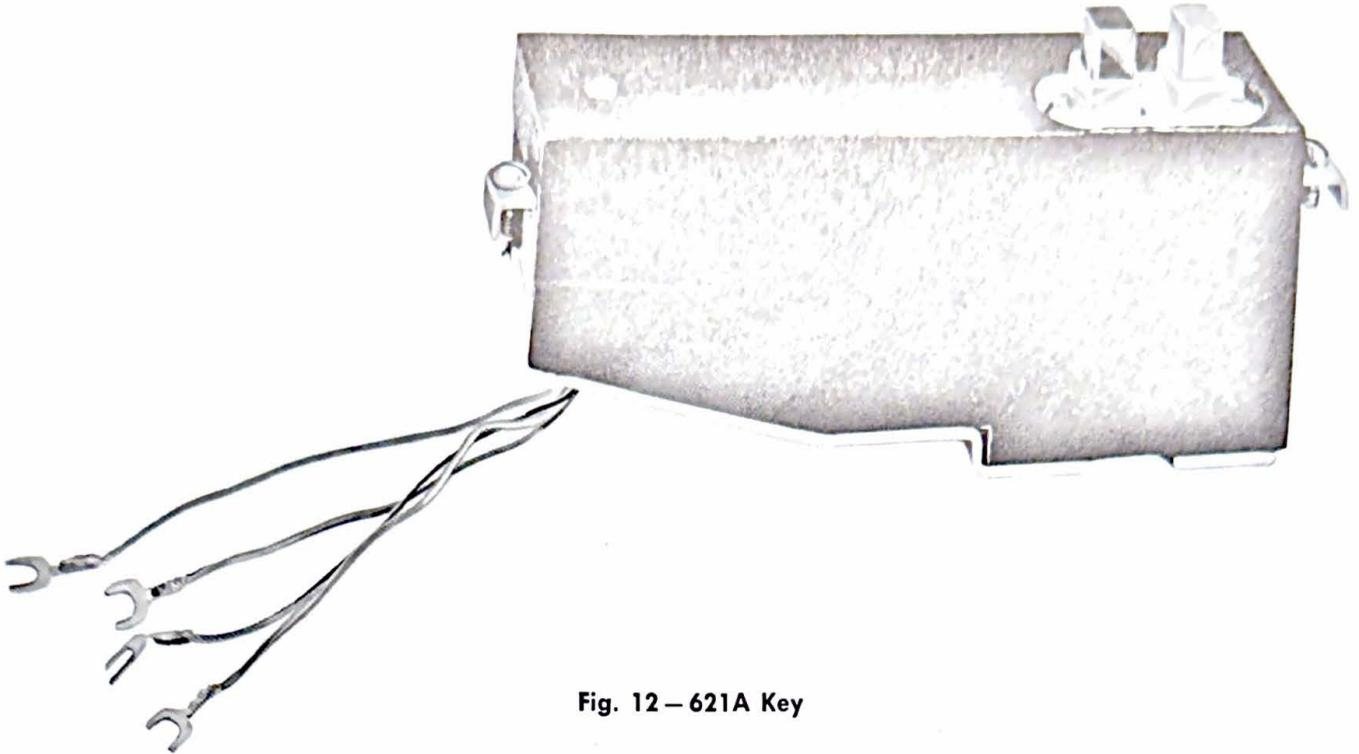

Fig. 12 - 621A Key
7.04 The 621A key (see Fig. 12) is a flash and release key. The flash key has make-before-break contacts. It shunts the receiver circuit and opens the line for operator recall. The release key physically actuates the pivot bar to release any operated key in the field.